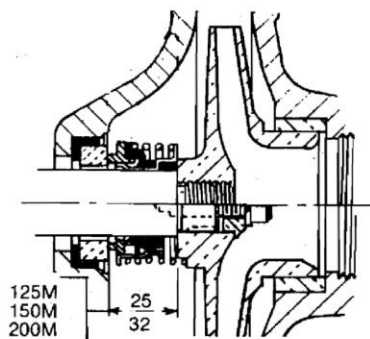

FIG. 7
- Check dimension from face of ceramic seat to shaft shoulder. This distance should be as noted in Figure 7 within a tolerance of ± 1/64.